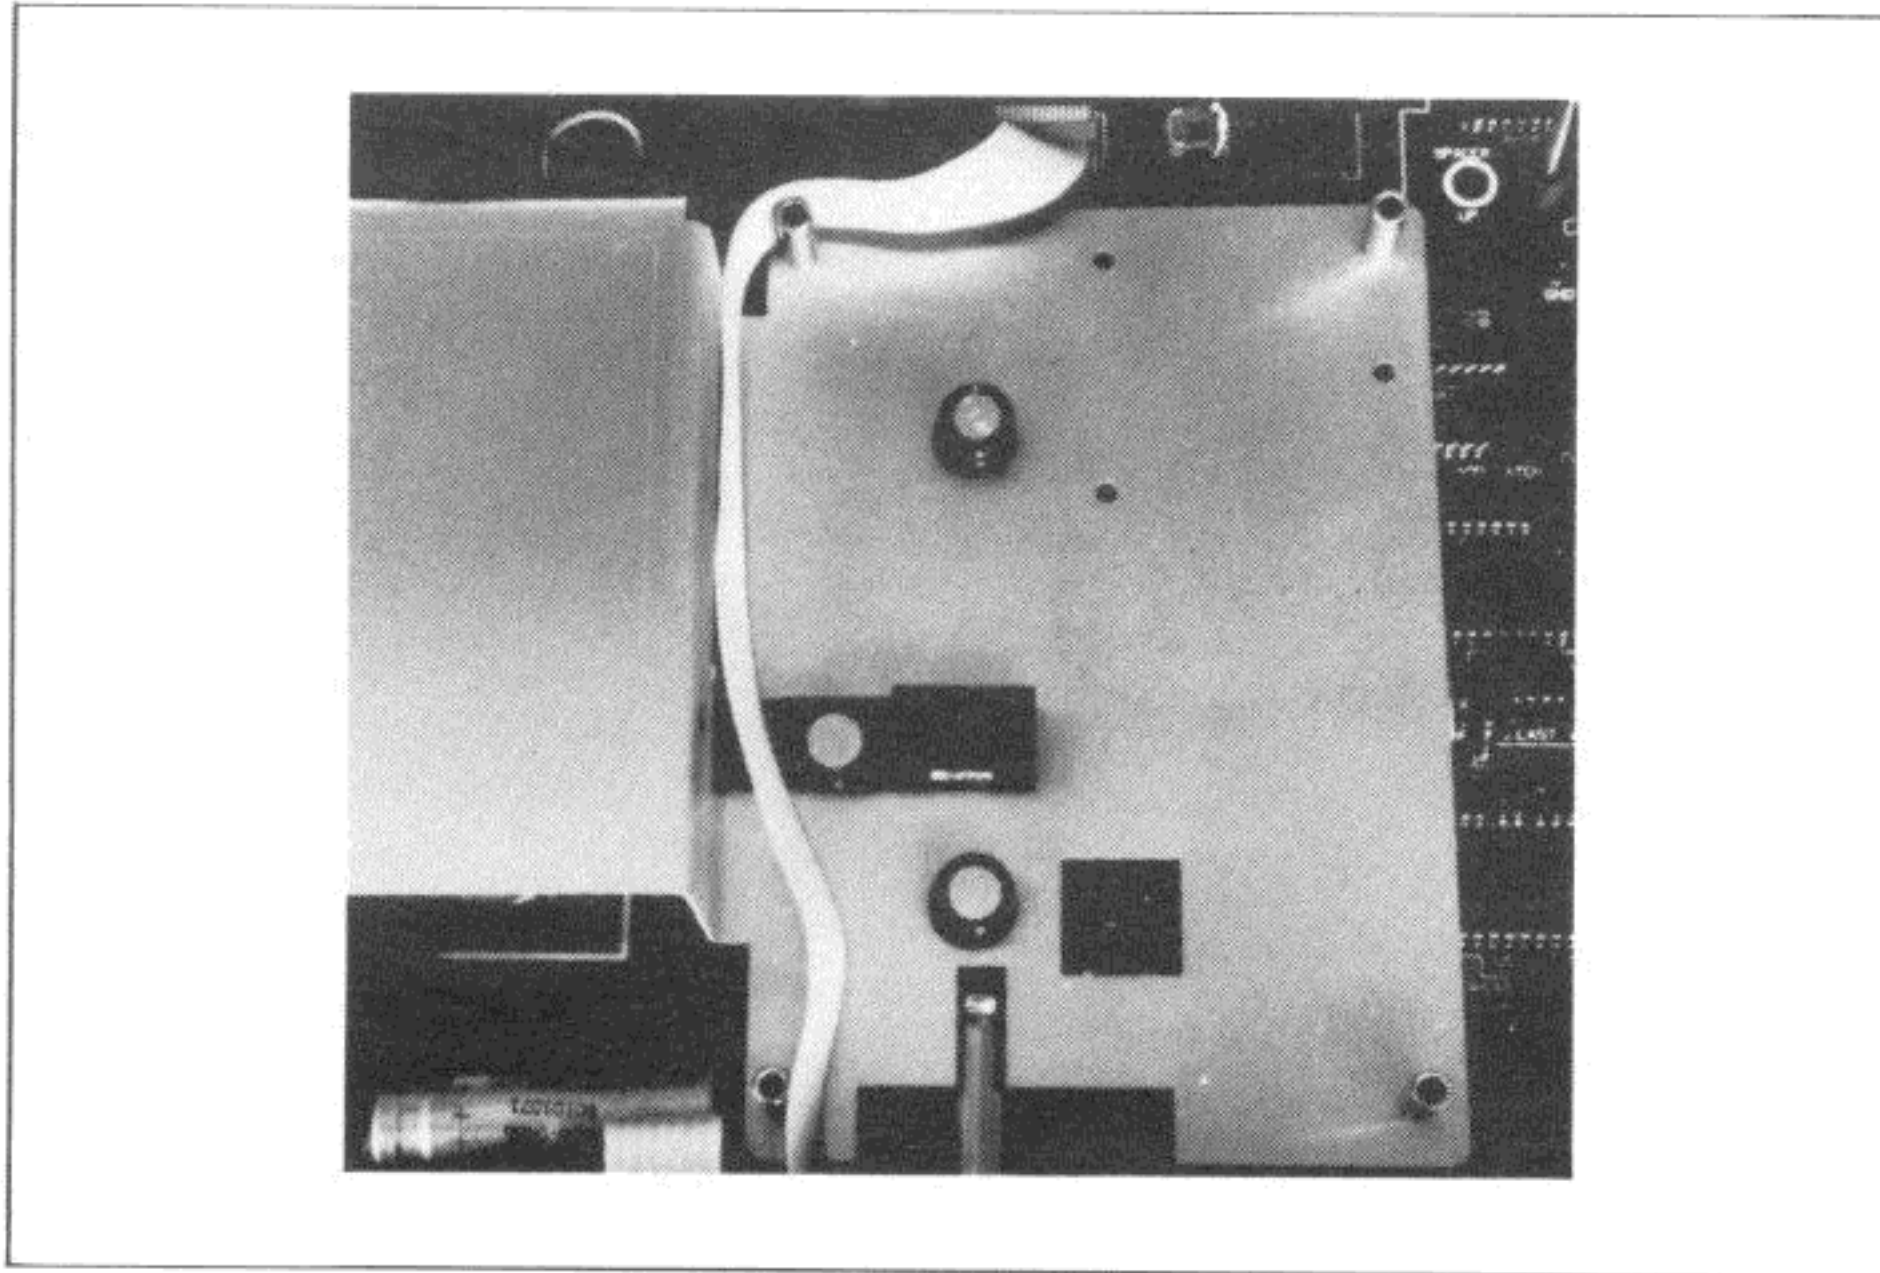

Figure 3-2-6. Slot 2 Option Cable Routing
a. If the HP 3421A has an HP-IB or 12 Vdc Power Adapter Option installed and it was not previously removed, place the slot 2 option on top of either the HP-IB or 12 Vdc Power Adapter Option. If the HP 3421A does not have either an HP-IB or 12 Vdc Power Adapter Option, place the slot 2 option directly on top of the bottom shield's standoffs. First, however, make sure the slot 2 option cable is routed as shown in Figure 3-2-6. The cable's red stripe should be oriented to the the right (pin 7 of the motherboard connector).